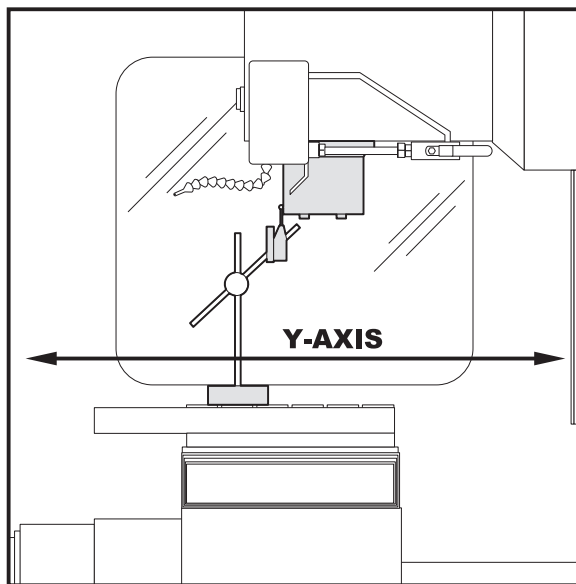

Figure 1-2. Dial indicator in position to check Y-axis.
1. Set up a dial indicator and base on the mill table as shown in Fig. 1-2.
An alternate method for checking backlash is to place the dial indicator as shown in Fig. 1-2 and manually push on the mill table in both directions. The dial indicator should return to zero after releasing the table.